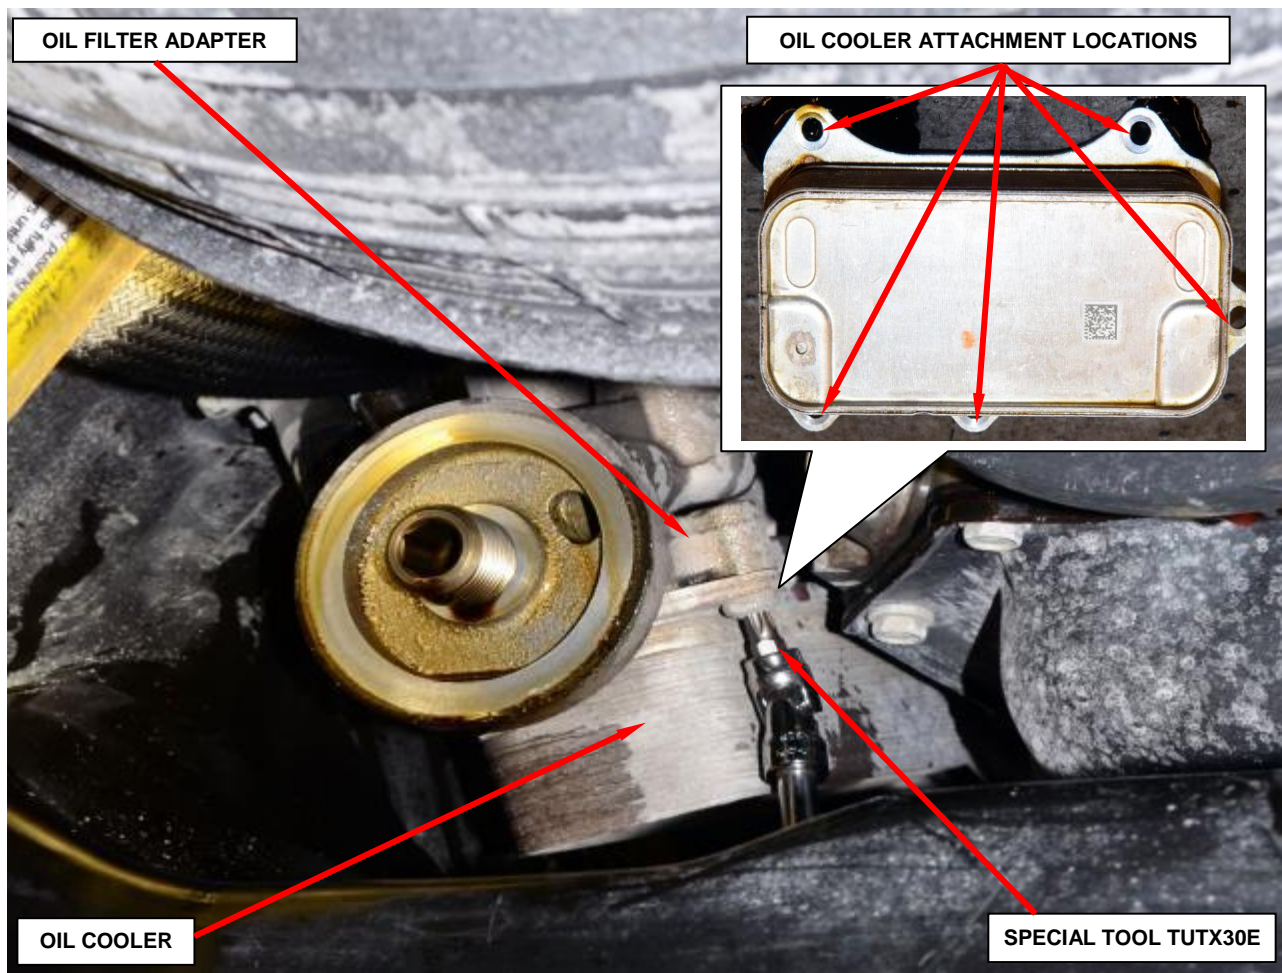

Figure 3 – Oil Cooler
8. Using special tool TUTX30E, remove and save the five oil cooler attachment bolts (Figure 3).
17. Using **special tool TUTX30E**, tighten the five oil cooler attachment bolts to 9 ft. lbs. (12 N·m) (Figure 3).